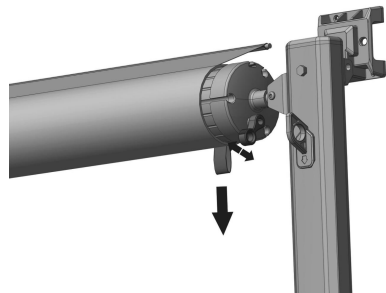

Figure E2
2. Unable to move the ratchet lever: The ratchet lever is stuck inside the ratchet due to the torque of the spring. When turning the ratchet lever, you can gently pull the reel and pull the strap before turning the ratchet lever. (Figure E2)